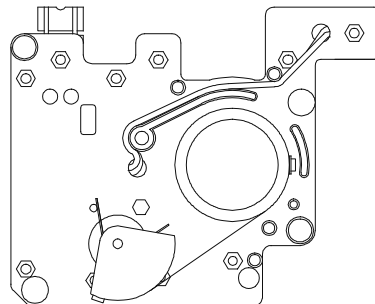

FIGURE 3. Bottom View of Carrier Plate Assembly Showing Shaft and Potentiometer in Mid Travel, Ready to be Fitted to Actuator in Mid Travel.
2.1.5 Observe the range of motion available to the positioner shaft, limited by the correct running of the potentiometer quadrant wheel, driven by the stainless steel strap (see Figure 3). Fit the carrier plate/shaft assembly back into the positioner box with the shaft near mid-range, “feeling” the female square in the positioner shaft onto the male actuator square while maintaining its position near mid range. It is essential that the two shafts are correctly oriented relative to each other, since if they are 90 degrees out, the quadrant wheel can be forced too far and damage done to the drive mechanism during subsequent actuator movements. It is possible to fit the positioner correctly with the actuator square at one end of its travel, but experience indicates a high probability of mistaking the direction of movement of the actuator – hence it is strongly advised that the positioner be fitted with the actuator square at the mid-travel position, where there is no ambiguity possible.